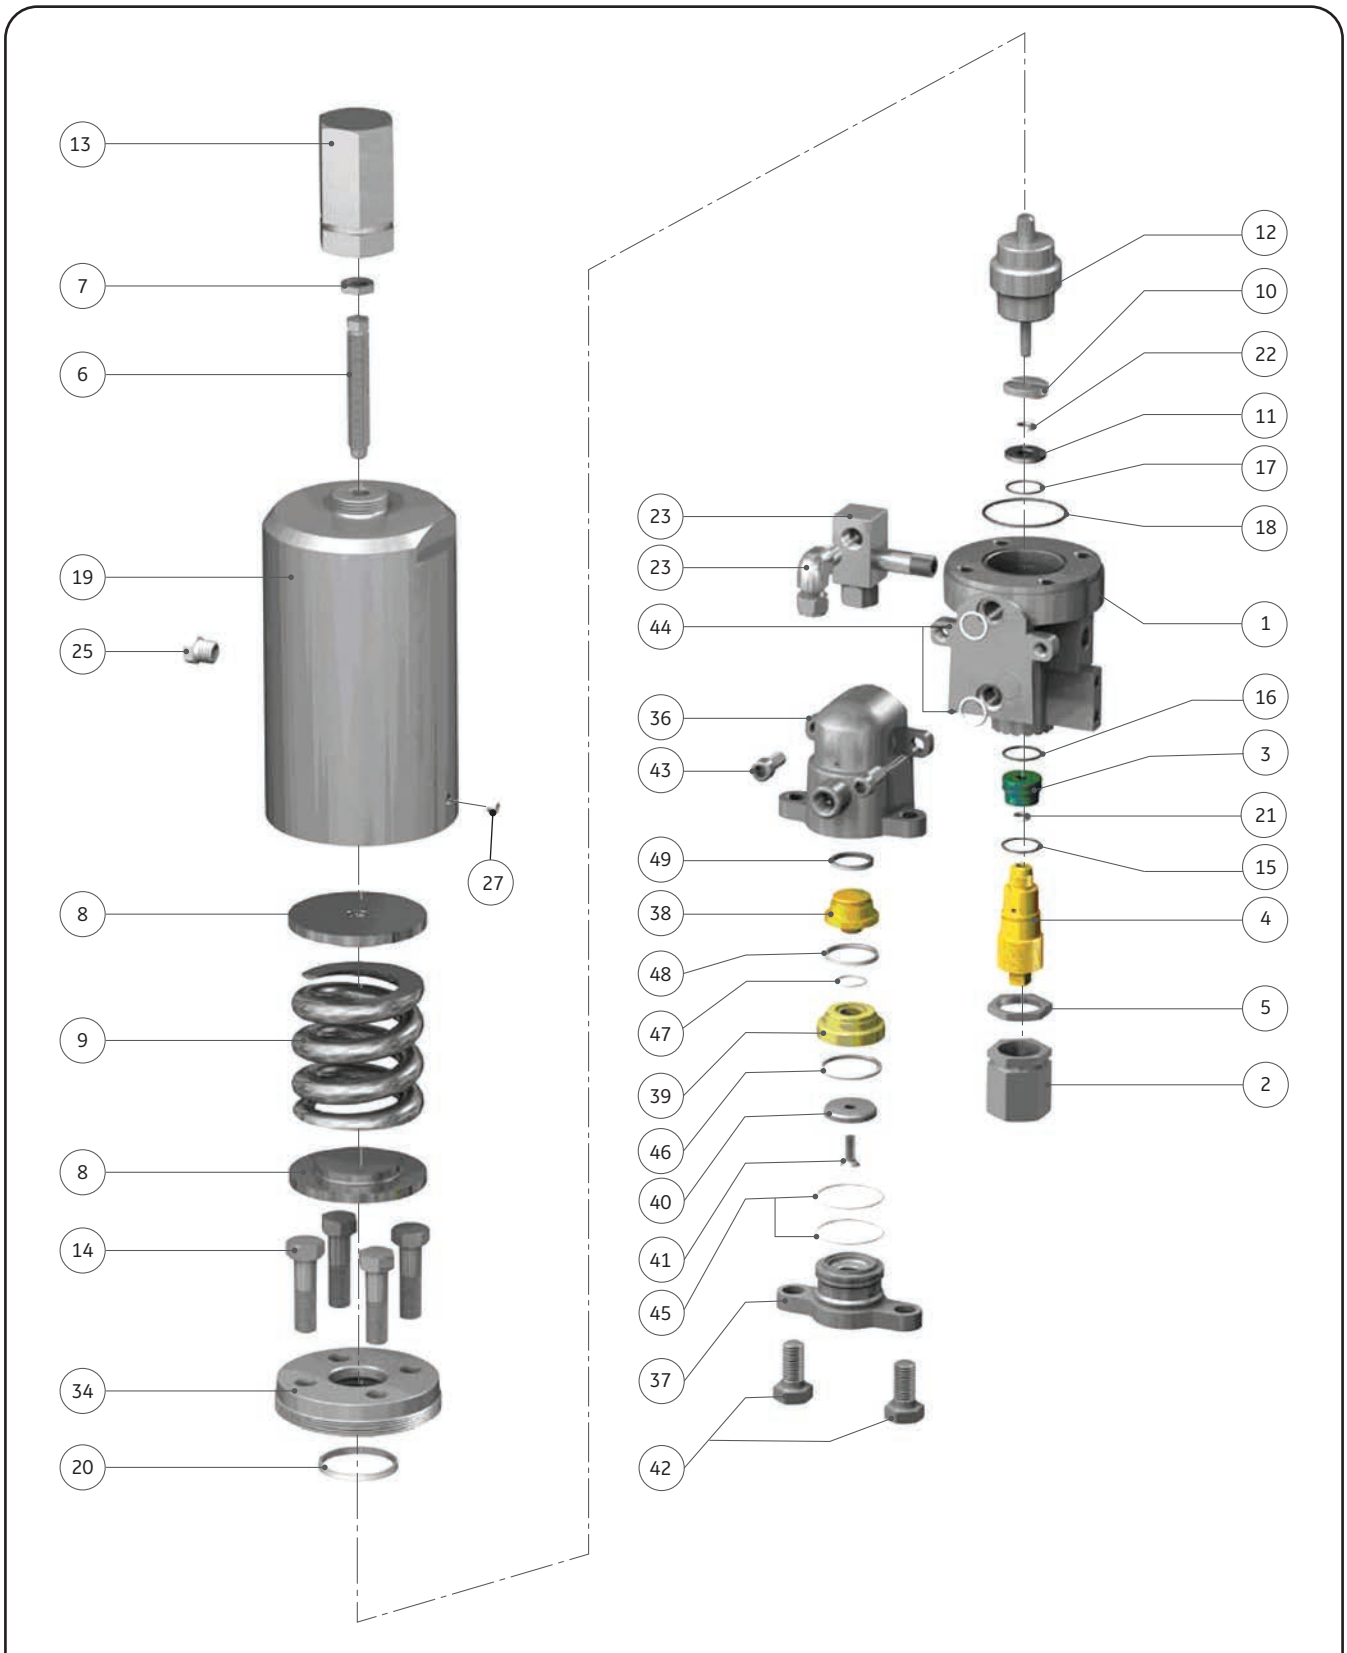

Figure 24: 39MV07 Disassembly
- If a lifting lever is installed, also use Figure 23 to remove the Lifting Lever assembly. Then return to Figure 24 to continue disassembly.